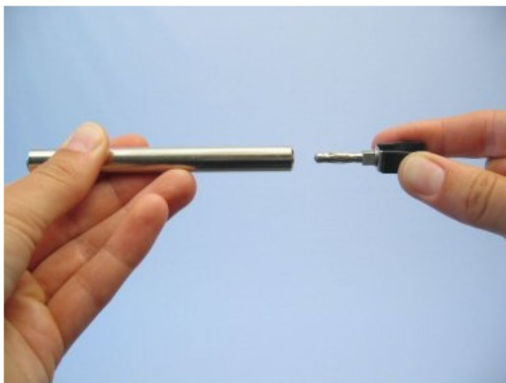
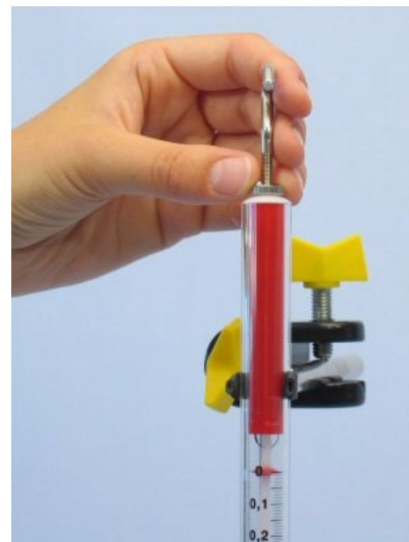

Fig. 4
Fig. 5
- Insert the spring balance holders into the short rods (Fig. 4). Fix the bosshead at the 60 cm support rod and clamp the short support rod in the bosshead. Clamp the two spring balances into place and adjust them to zero by using the adjustment screw (Fig. 5).